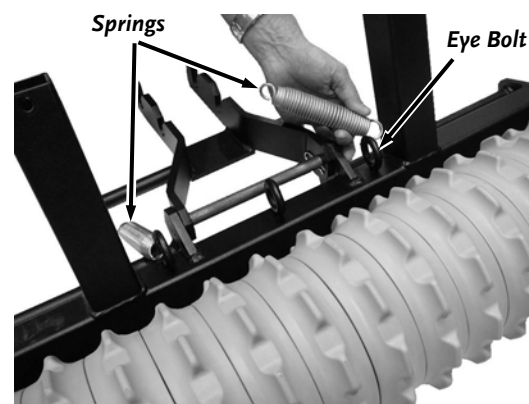

Figure 20
4. Install the springs onto the two Eye Bolts on the Frame Assembly (**Figure 20**).